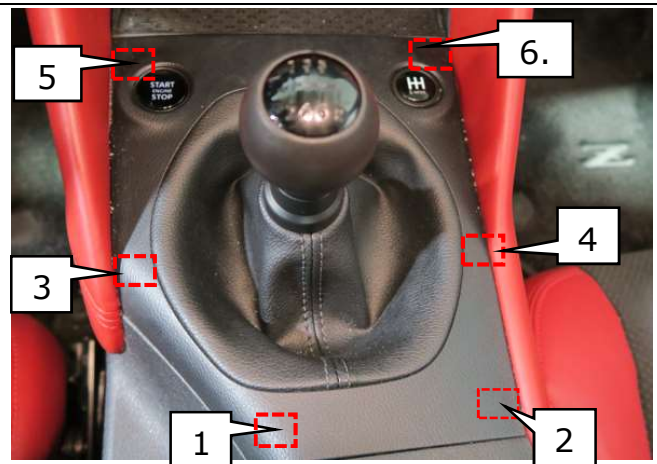

Figure 24
- Using a finesse stick, disengage the clips in order 1-6 as shown in Figure 24